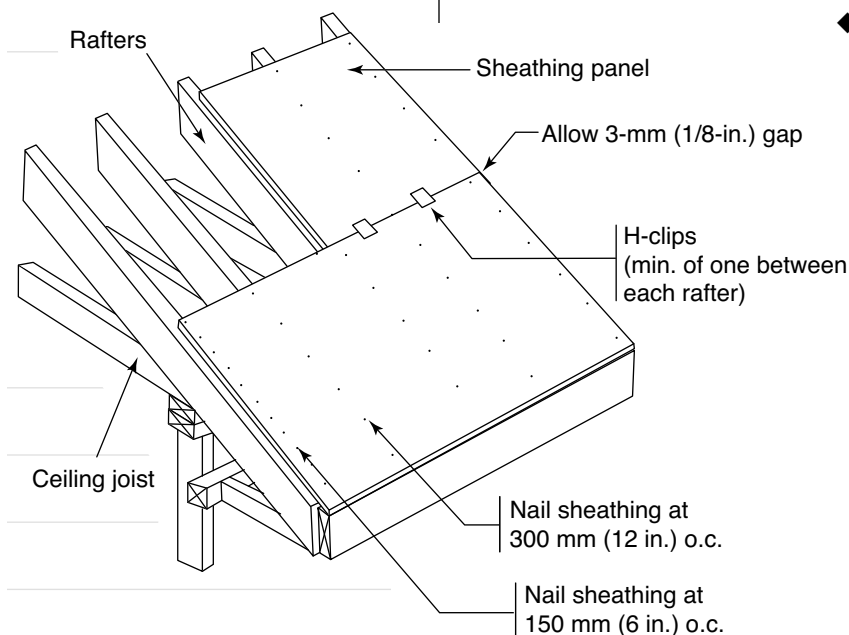

FIGURE 17
- ◆ When using panel-type sheathing of less than 12 mm (1/2 in.) on rafters or trusses at 600 mm (24 in.) o.c., support panel edges between rafters or trusses with H-clips installed at the midpoint between rafters or trusses or with 38 x 38-mm (2 x 2-in.) blocking nailed between rafters or trusses (see Figure 17).